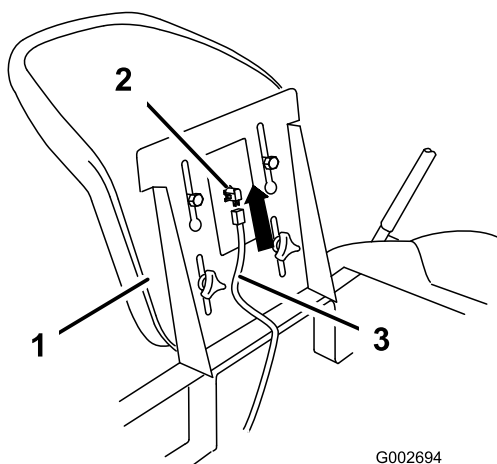

Figure 7
- Connect the seat switch harness to the seat switch in the base of the seat as shown in Figure 7.